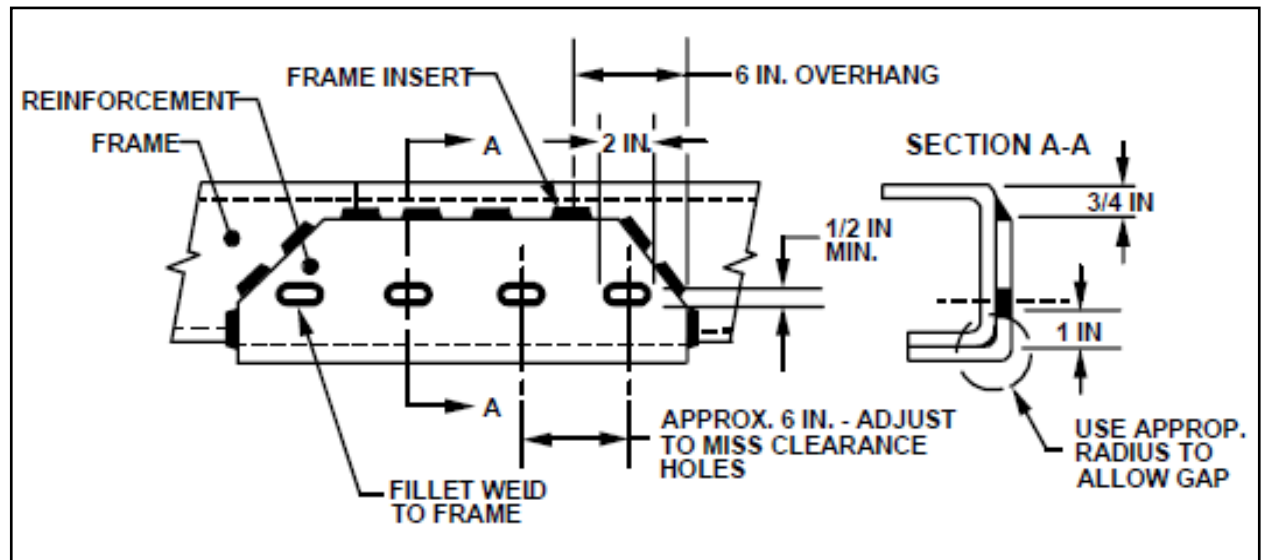
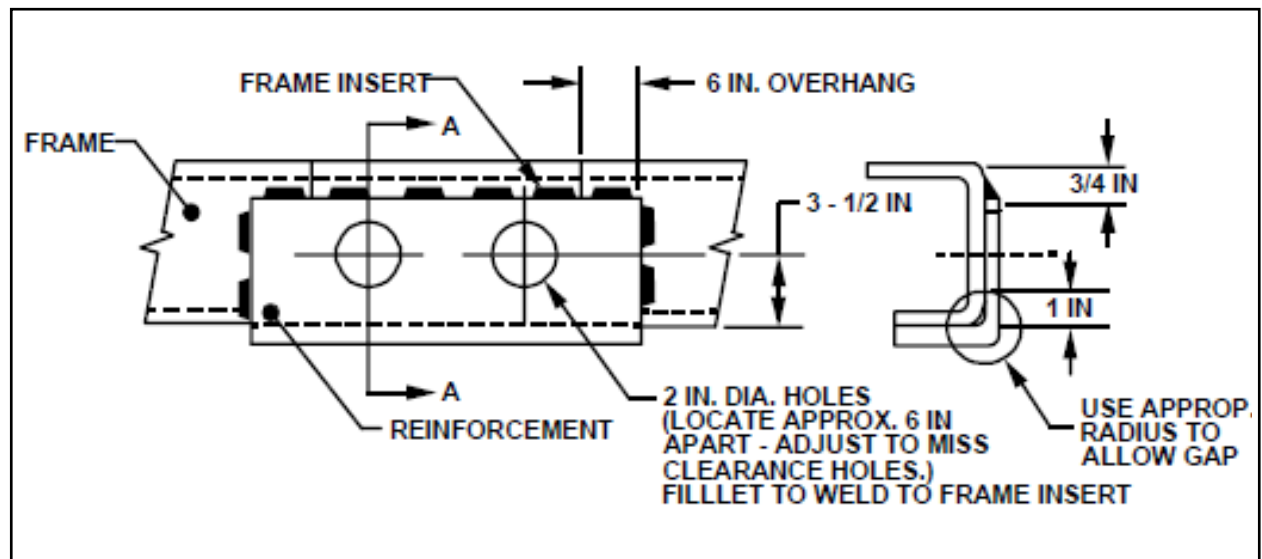

Figure 33 – Preferred Method for Reinforcement and Welding
Figure 34 – Minimum Required Method for Reinforcement and Welding
shaped cross section and be of the same material and thickness as the frame. The reinforcement height must not extend above the tangent of the frame upper flange radius to allow for welding. (See Figures 33 and 34) Note: The reinforcement height must also allow for frame rail formations, if applicable, to provide a flush fit. The width should not exceed the lower flange width.
- The inside reinforcement bend radius must be larger than the outside radius of the frame to provide a gap at the bend. Refer to Figures 33 and 34 for greater detail. Add clearance holes to the reinforcement for all rivets, fasteners, or retention clips in the frame side member.
- Clamp the L-section reinforcement to the outside of the frame rail. There should be no visible gaps between the frame rail and the reinforcement other than at the bend. Fillet weld the reinforcement to the frame rail by using a skip weld technique. (A 51 mm [2 inch] weld followed by a 51 mm [2 inch] space continuous along the reinforcement – See Figures 33 and 34.)
- For the final weld operation, fillet weld the reinforcement slots or holes to the frame as shown in Figures 33 and 34. Although perfectly acceptable, it is not necessary to fillet weld the entire circumference of the slots or holes. Performing a fillet weld only on the bottom half (for 180°) will provide sufficient strength.
Note: Although Figure 34 ("Minimum Required Method") is acceptable, the method illustrated by Figure 33